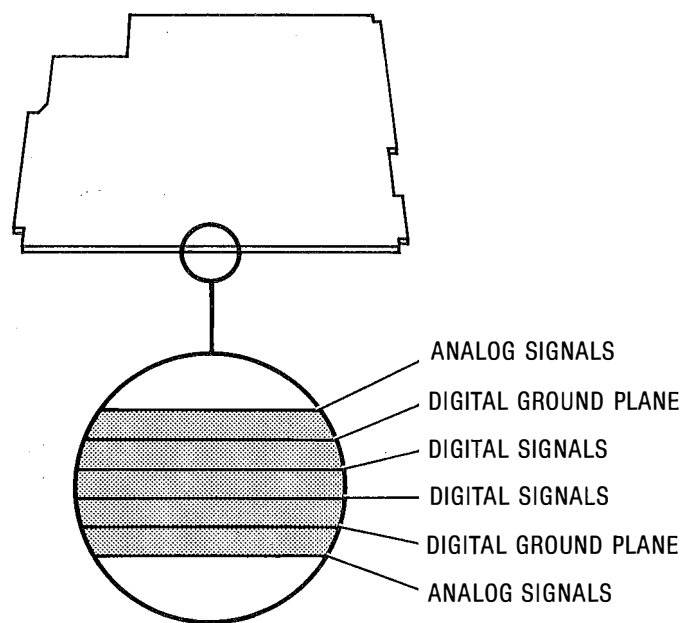

Figure 8E-1. A62 Motherboard Cross Section
- ☒ The A62 Motherboard Component Location Diagram (Figure 8E-2).
- ❑ **GND PLANE** - Refer to Figure 8E-1, A62 Motherboard Cross Section for the following explanation.
As shown in Figure 8E-1, A62 Motherboard Cross Section, the GND PLANE exists between the two innermost and two outermost Motherboard printed circuit layers. These layers were designed to disperse any digital noise into the GND PLANES and act as an electrostatic shield between the digital and analog signal traces. The GND PLANES extend to each edge of the Motherboard and are connected to STAR GND. With this scheme, isolation between analog and digital grounds is maximized and signal crosstalk minimized.